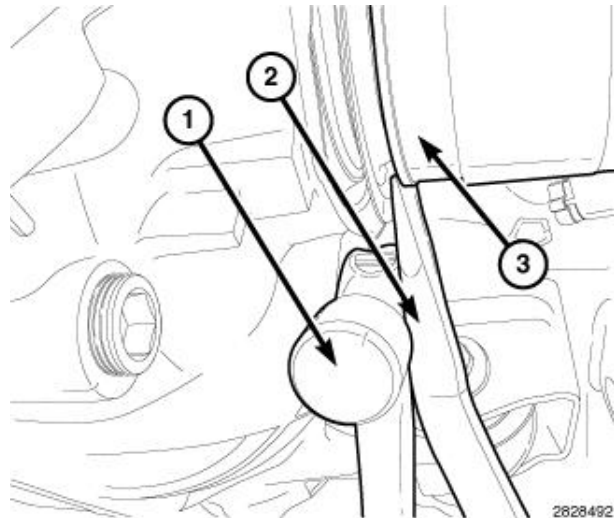

Figure 19 – Disengage Halfshaft
29. Using a hammer or similar tool (1) as a pivot point and a suitable pry tool (2), carefully disengage the right side halfshaft (3) from axle assembly (Figure 19).
31. Using a hammer or similar tool (1) as a pivot point and a suitable pry tool (2), carefully disengage the left side halfshaft (3) from axle assembly (Figure 19).